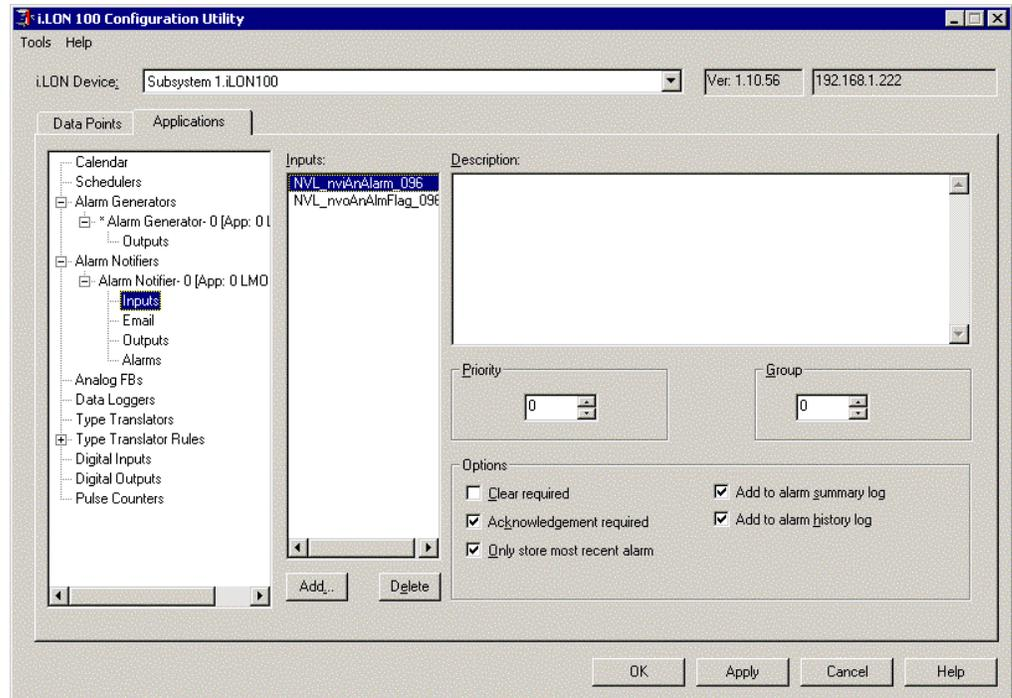

Figure 4.4 Alarm Notifier Inputs Dialog
- Click **Inputs** under the selected **Alarm Notifier** in the Applications list. The dialog shown in Figure 4.4 opens.